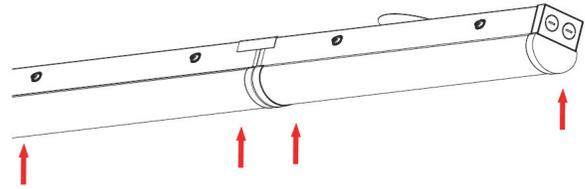

Fig. 22
11. Secure the housing cover by pressing inward and lock it into the fixture. Turn power on to verify operation (Fig. 22).